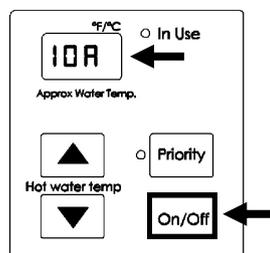

Figure 14B (Propane)
5. After setting “i0” is selected, press the “On/Off” button to change the selection. Select “i0R” for Propane (LP) or “i0b” for Natural Gas (NG) (Figures 14B and 14C).